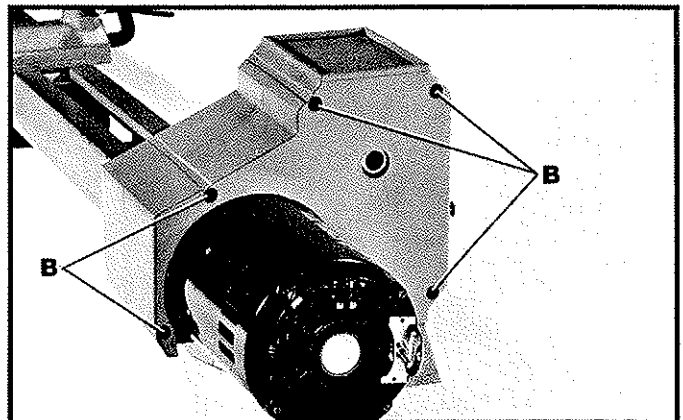

Fig. 88
3. Remove the five screws located in holes (B) Fig. 88, on left side of headstock.